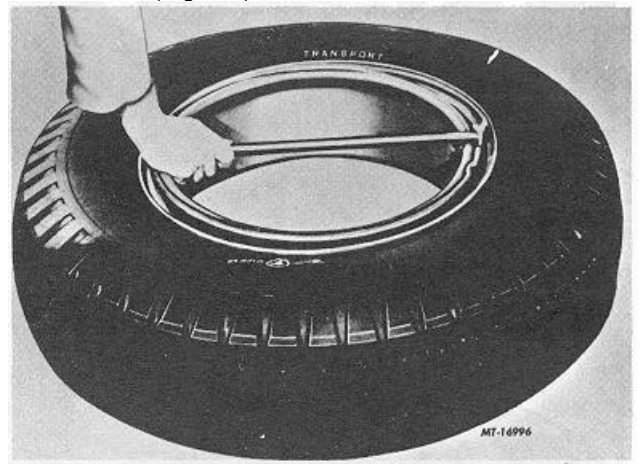

Fig. 44
2. Insert rim tool into removing notch, near split in the ring and push downward to remove lock-ring from rim gutter. A second rim tool may be helpful to aid in removal (Fig. 44).